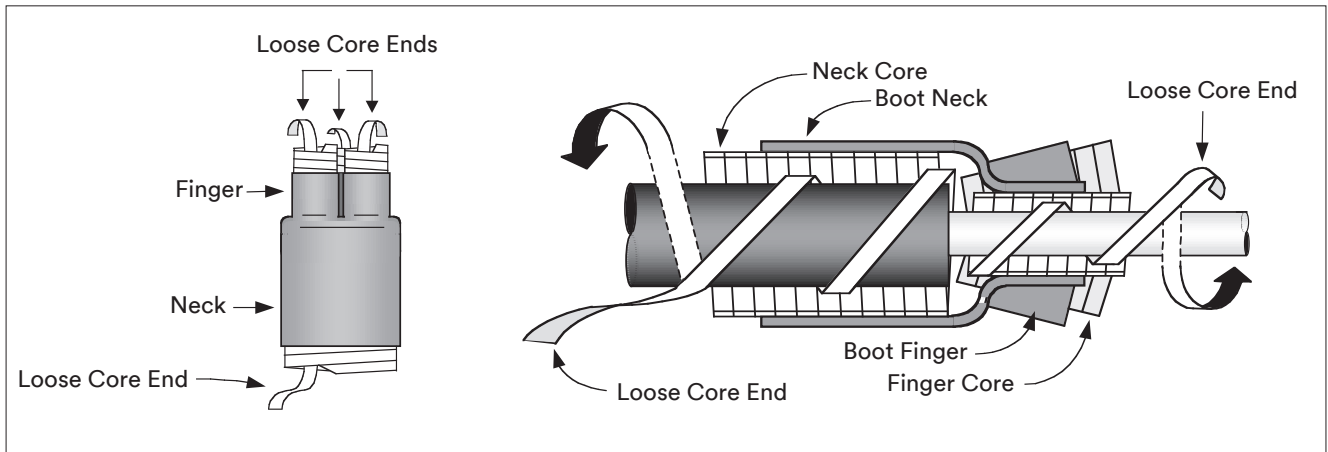

Figure 13
- 4.1 Inspect breakout boot assembly and confirm that all loose plastic core ends are free as shown (Figure 13).